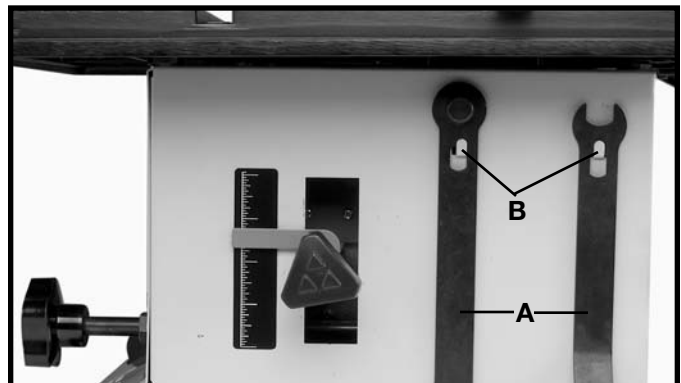

Fig. 22
The Router/Shaper is supplied with two wrenches (A) Fig. 22. When not in use, the wrenches (A) can be stored safely out of the way on the two hooks (B) located on the right side of the cabinet, as shown in Fig. 22.